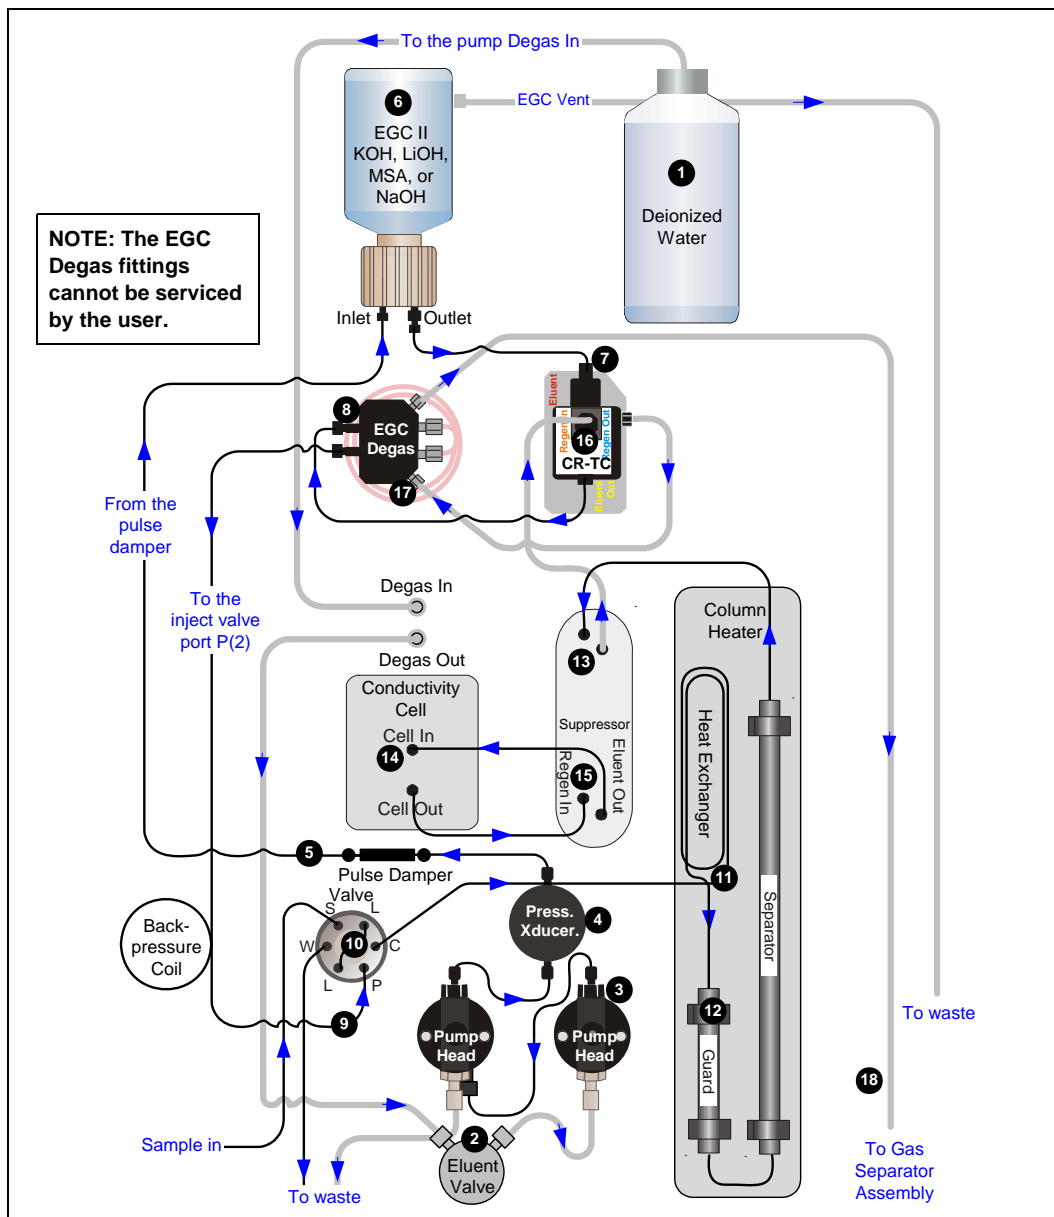
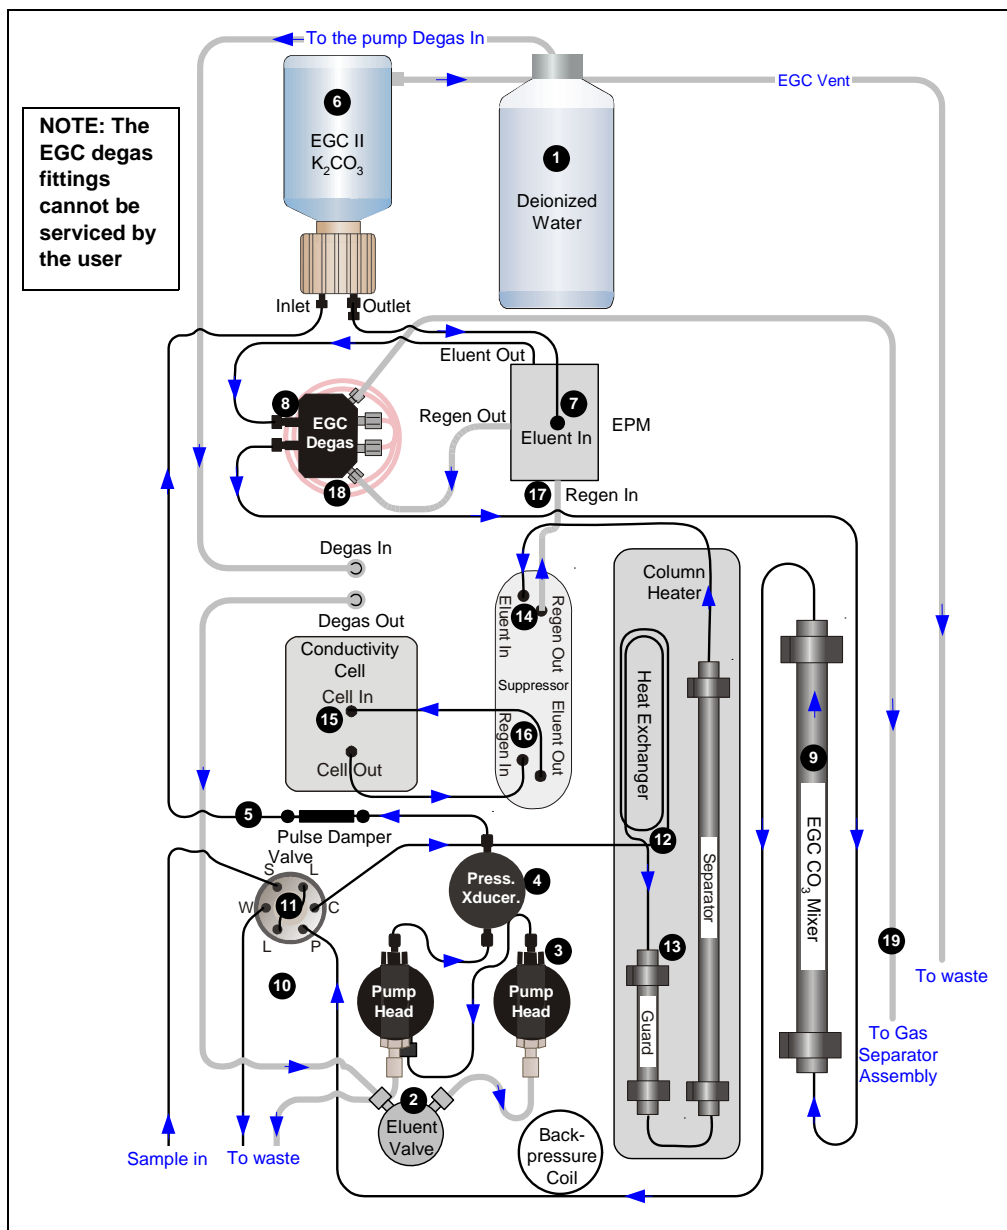
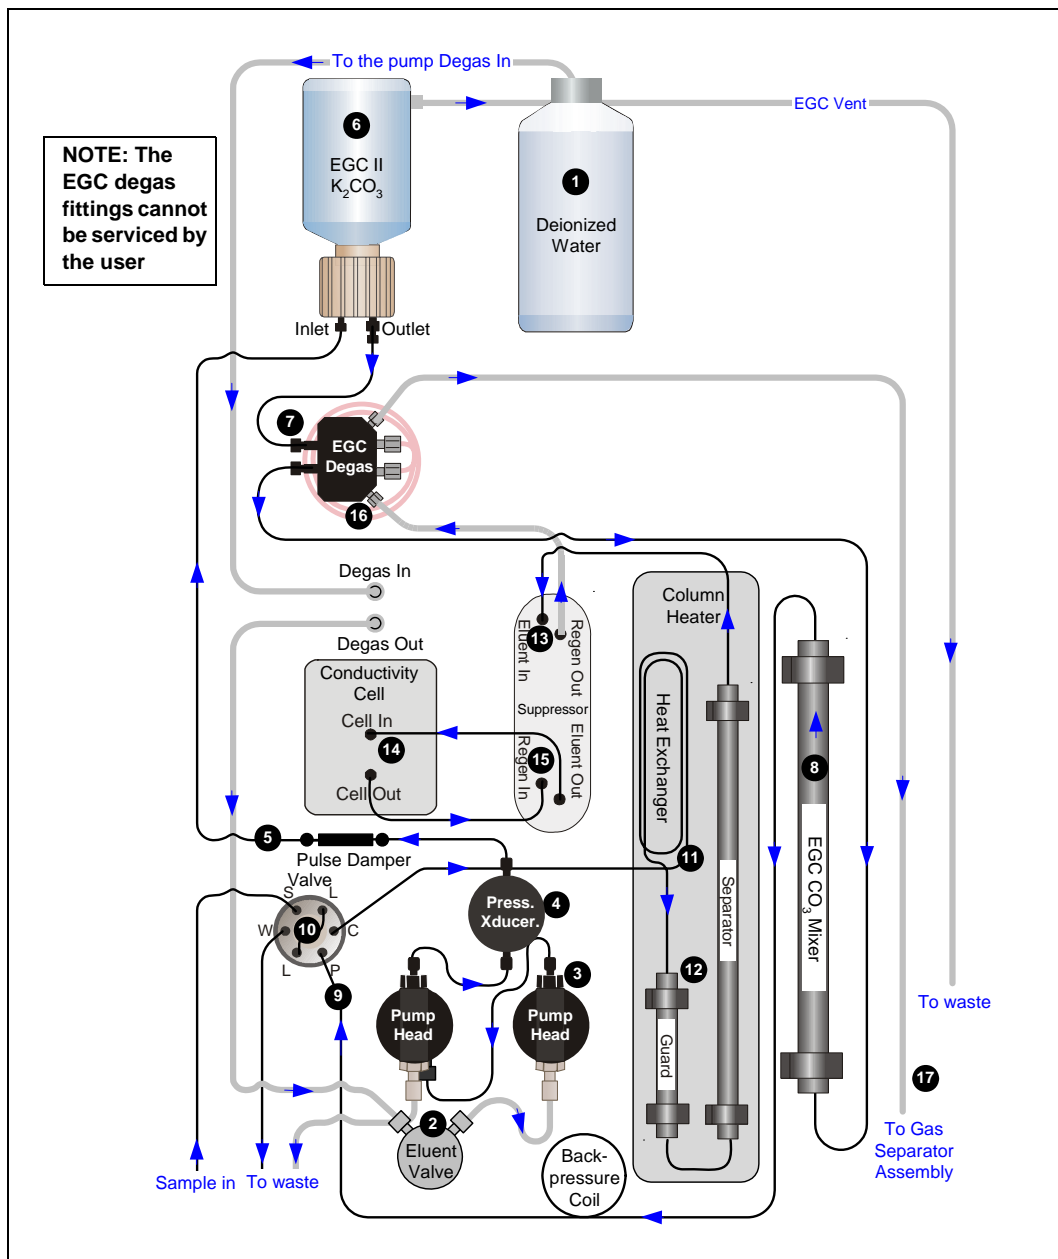

Figure 5-7. ICS-2100 Flow Schematic: KOH, LiOH, MSA, or NaOH Eluent Generation
Figure 5-8. ICS-2100 Flow Schematic: Carbonate/Bicarbonate Eluent Generation
Figure 5-9. ICS-2100 Flow Schematic: Carbonate Eluent Generation
2. Follow the flow schematics in Figure 5-7, Figure 5-8, or Figure 5-9 and work backward through the system, beginning at the suppressor **Regen Out** port. One at a time, loosen each fitting and observe the pressure. The connection at which the pressure drops abnormally indicates the point of restriction.